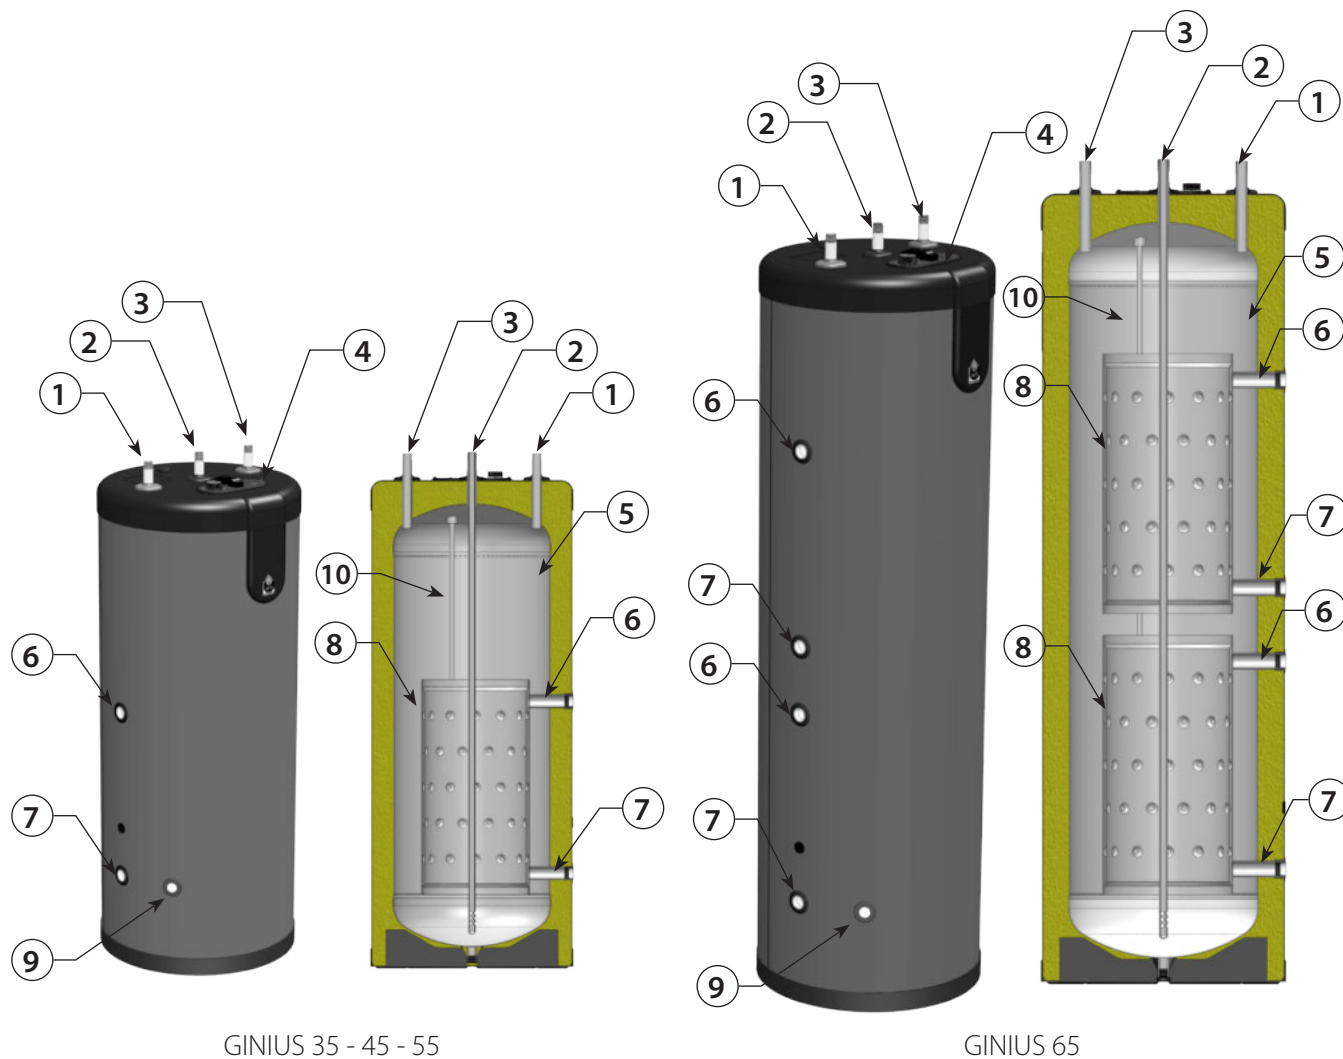

Fig. 1 - GINIUS Series Description
- Install a drain valve at the domestic water drain connection (Refer to *Fig. 1 on page ix*).